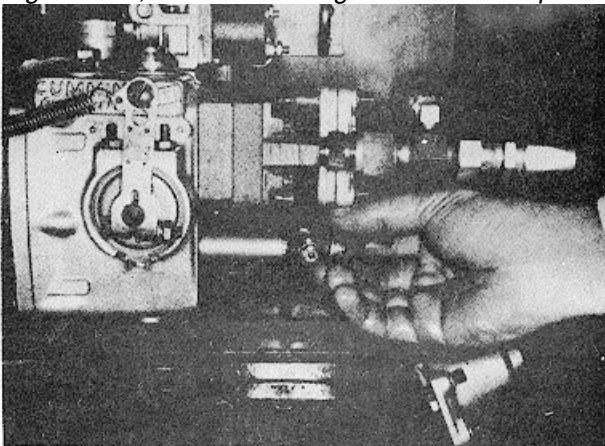

Fig. 5-1-17. F5109, Shim governor spring
8. If speed is lower than specified, add shims between governor spring and retainer. Check Table 5-1-2 for spring specifications. To reduce speed, remove shims. Each 0.001 inch shim thickness will change speed approximately 2 rpm on NH Engines. Fig. 5-1-17, Shims are available in 0.005, 0.007, 0.010 and 0.020 inch [0.13, 0.18, 0.25 and 0.51 mm] .